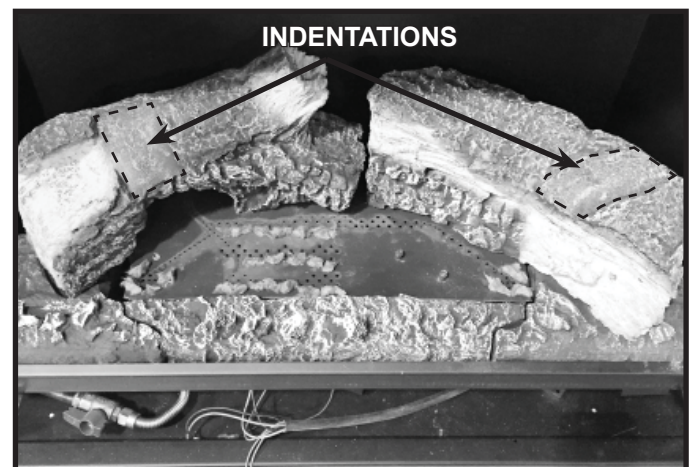
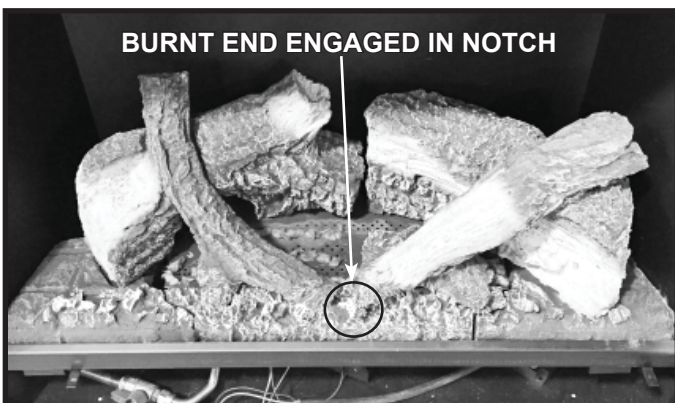

Figure 6. Glowing Embers® Installed
Figure 9. Top Right Log Installed - Log Set Complete
- Top left and top right logs, which lay across the rear left and rear right logs, utilize the "indentations" in the rear left and rear right logs for proper placement. See Figure 6.
- Remove top left log from packaging. Place the log into the indentation on the left rear log. The indentation is highlighted in Figure 6. The bottom two points of the log will rest on the center hearth component. See Figure 7.
- Remove right top log from packaging. There is an indentation located in the right rear log which “cradles” the right top log. The indentation is highlighted in Figure 6. The burnt end of the log will engage a notch in the middle hearth component. See Figure 9.